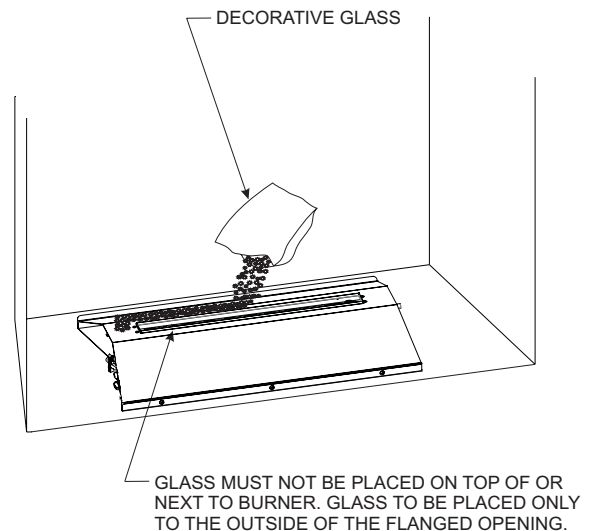
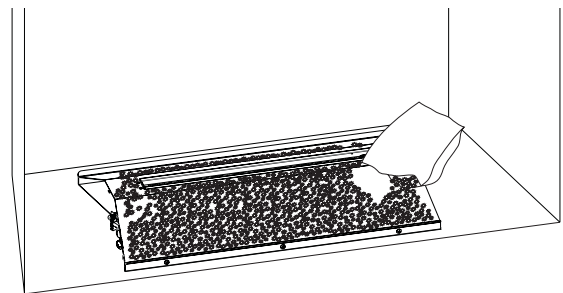

Figure 23
Figure 24
3. To install the Decorative Glass, cut off a corner of the plastic bag and proceed to apply the glass to the rear shelf on the Loft burner (area behind the burner). Apply only enough glass to the Top Cover to cover the black metal surfaces. Do not allow the glass to fall around the burner tube. **See Figure 23.** Apply the remaining decorative glass to the front sloped surface of the Top Cover. Start by placing the glass along the front edge of the top cover, then gradually place the glass up the sloped top until completely covered. Do not allow the glass to fall around the burner tube. **See Figure 24.**